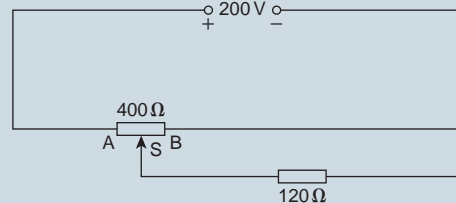

Figure 7.44
- For the circuit shown in Fig. 7.44, AS is 3/5 of AB. Determine the voltage across the 120 Ω load. Is this a potentiometer or a rheostat circuit?